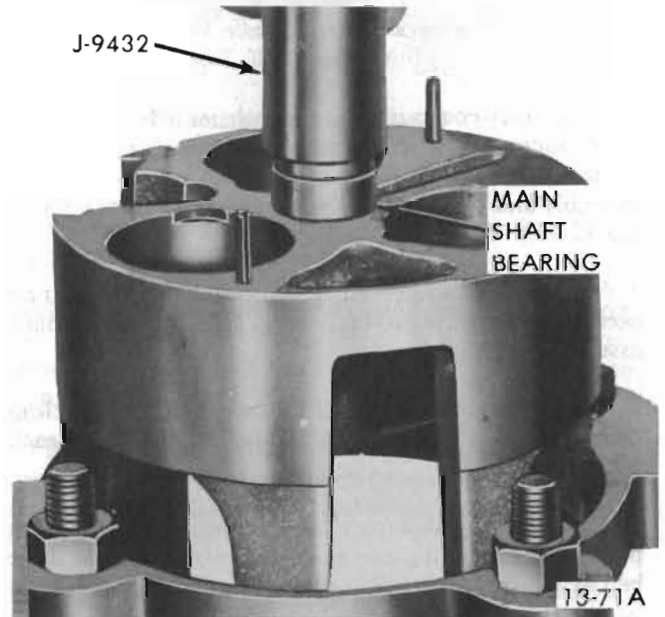

Figure 13-46 Installing Main Shaft Bearing
**NOTE:** Examine front and rear cylinder halves, front and rear main shaft bearings, and replace as necessary. If bearings are to be replaced, drive out of cylinder halves with suitable socket or punch. Install new bearing (lettering on bearing edge facing outward) using bearing installer (J-9432). See Figure 13-46.